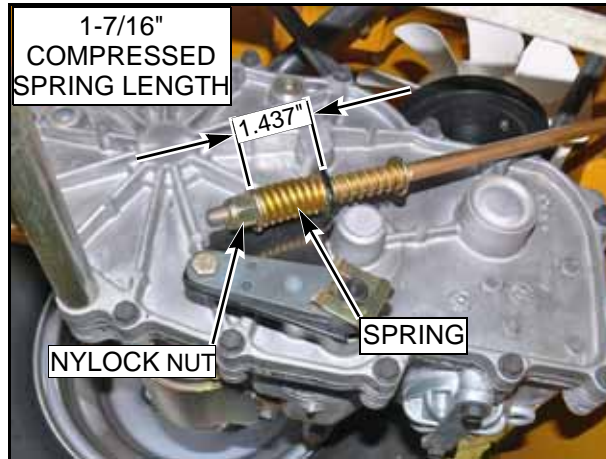

FIG. 39
3. Measure the park brake spring. It should be compressed to 1-7/16". If it is not, adjust the nylock nut until the proper spring compression is achieved (FIG. 39).